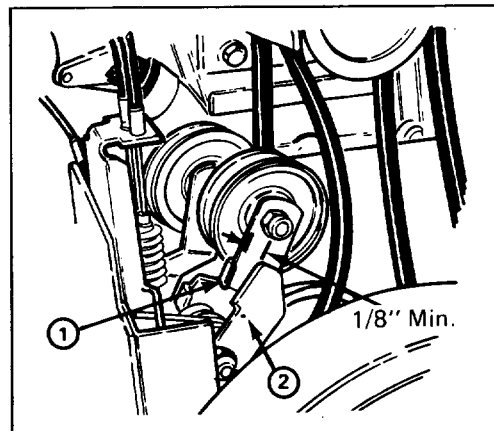

Figure 25
2. Check idler and brake adjustment. There should be a minimum clearance of 1/8" between tab on impeller idler arm and brake arm (Fig. 25). If there is less than 1/8" clearance, belt must be replaced.